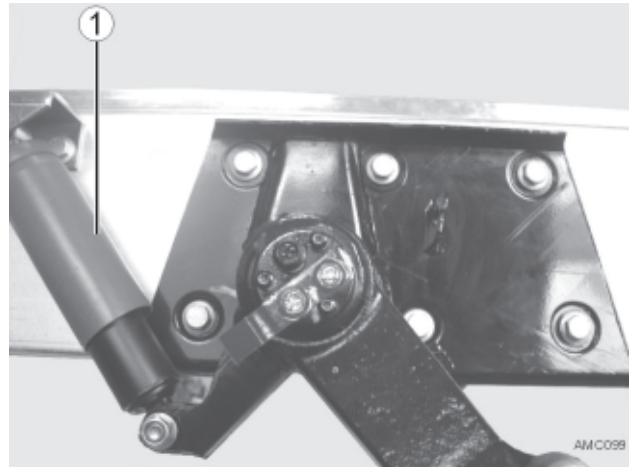

Fig. 36 Picture shows axle model BTR1
6. Remove shock absorber (Fig 36 - 1) as per chapter 4.4.